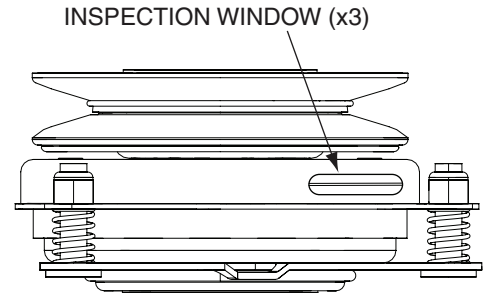

Figure 6-11. Clutch Air Gap Adjustment
3. Tighten or loosen the adjusting bolt as needed to acheive the 0.015 inch airgap. See Figure 6-11. Perform this operation at all three inspection windows.